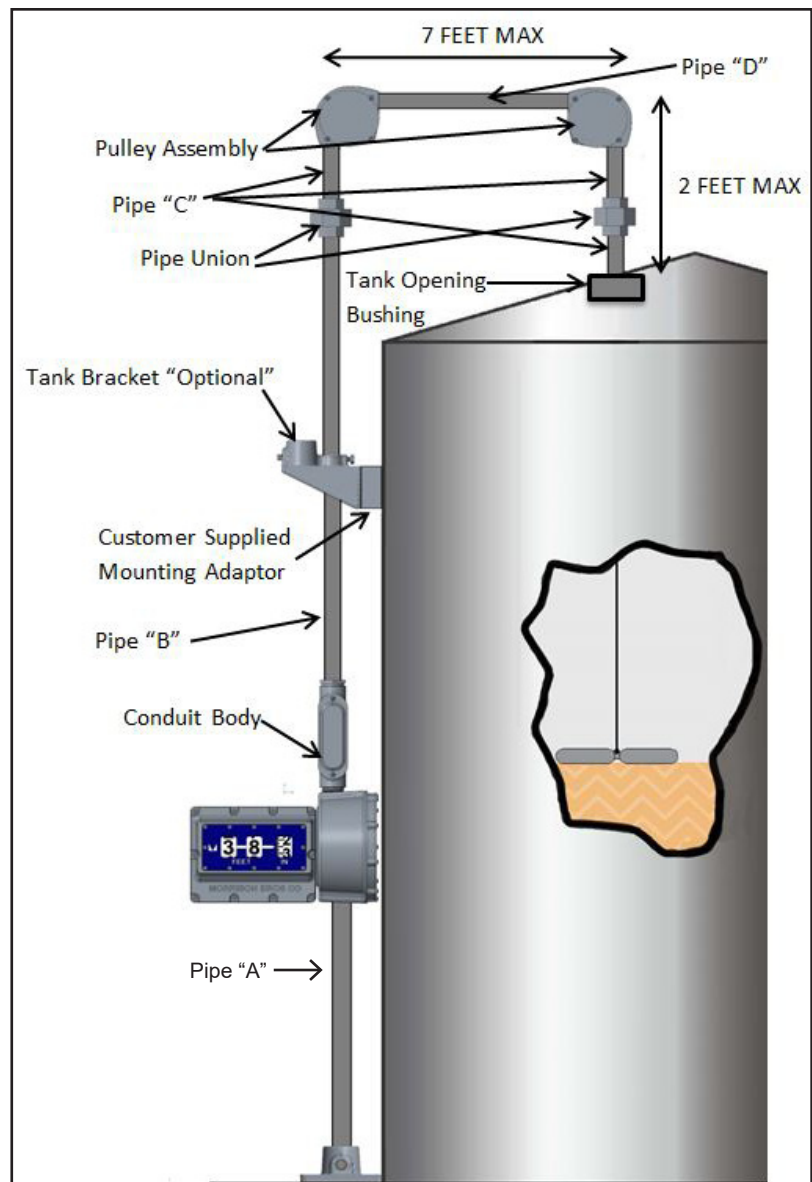

Figure 4
8. Thread Pipe "B" onto gauge (before cutting or adding to the desired length pipe "B" is to be used to determine the length of pipe "D.") Pipe "B" will have to be long enough to be able to measure the center to center distance from Pipe "B" to tank opening. (See Figure 4.)
10. Thread a pulley assembly onto each end of pipe "D", making sure pulley assemblies are aligned with one another (See Figure 4.)
13. Thread the last Pipe "C" onto the full pipe union. Thread tank opening bushing onto Pipe "C." (See Figure 4.) Apply PTFE tape to the male threads on both ends of the pipe. **DO NOT use any pipe dope as this may get on the gauge cable**
16. Thread the other half of the $\frac{3}{4}$ " NPT union on top of pipe "B." Thread pipe "B" into conduit body of gauge. (See Figure 4.)